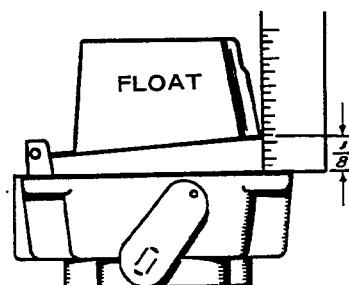

FIGURE 6. FLOAT ADJUSTMENT
2. Invert float assembly as shown in Figure 6.
3. If it is necessary to reset the float level, bend float tangs near pin to obtain a 1/8-inch clearance (Figure 6).